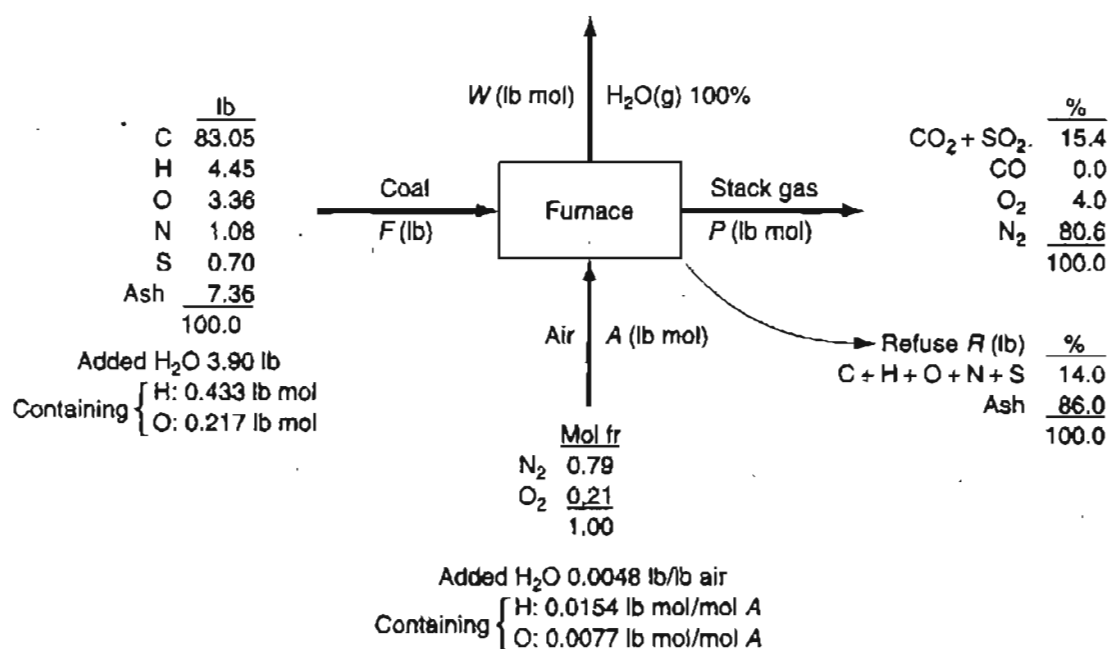

Figure E10.9
All of the information given in the problem statement has been placed on Figure E10.9. Because the gas analysis is on a dry basis, we added a flowstream *W* for the exit water to the process diagram.
Step 4 (repeated) You must first calculate some extra information besides the compositions given in the diagram (the information has already been added to Figure E10.9 for convenience).